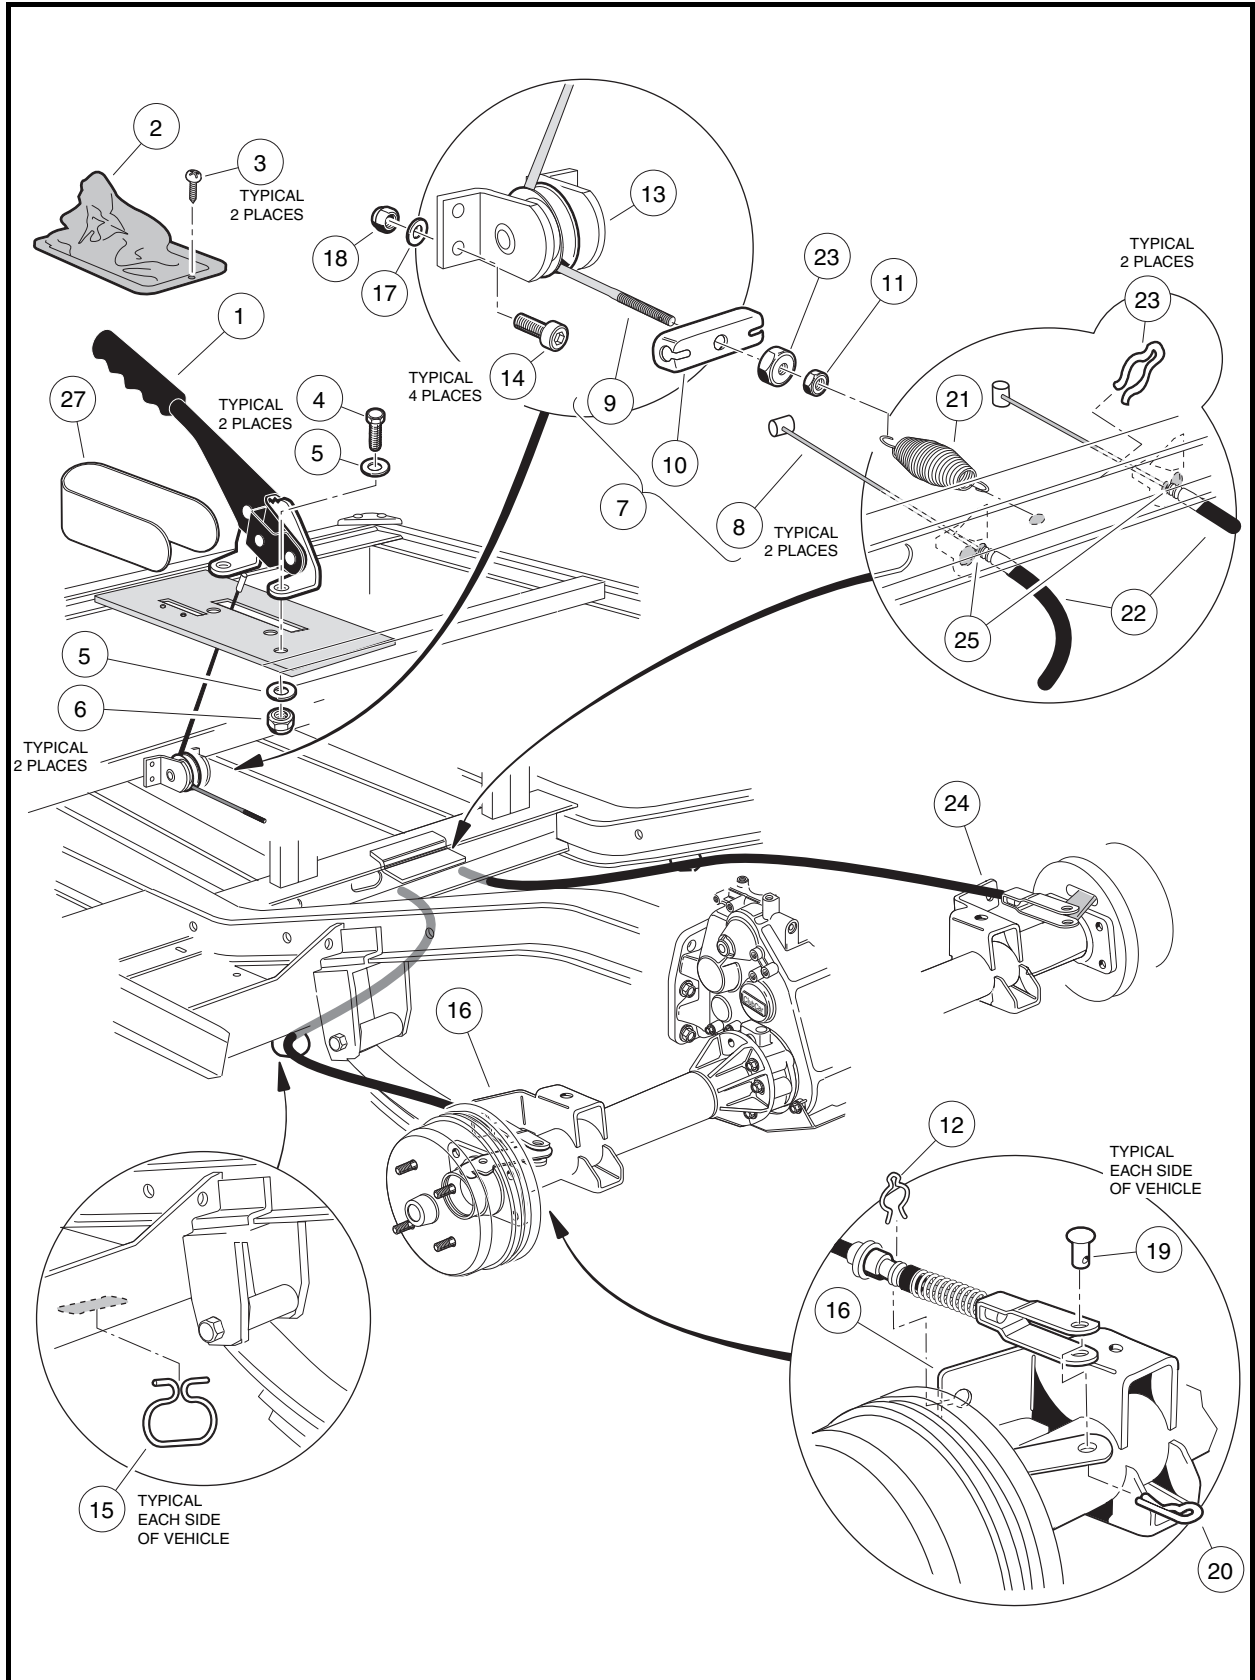

Figure 6-27 Park Brake System
2. Remove the two screws (3) that secure the park brake boot (2) to the seat support (**Figure 6-27, Page 6-37**).
3. Slide the boot (2) off of the park brake handle (1).
4. Remove the boot shield (27) from the park brake handle.
5. Remove the equalizer spring (21) from the equalizer cable (9).
6. Remove the equalizer jam nut (11) and conical nut (23) from the cable end (9).
7. Remove the end of the park brake cable from handle (1) by pushing the equalizer cable in an upward direction and pulling the cable end toward the passenger side of the vehicle.
2. Remove the four #10-24 x 3/4-inch socket-head screws (14), locknuts (18) and washers (17) from frame and remove the assembly (**Figure 6-27, Page 6-37**).
1. Loosen the equalizer jam nut (11) and the conical nut (23) to provide slack in the wheel brake cables (**Figure 6-27, Page 6-37**).
3. Remove the cable clip (23) from a wheel brake cable (22) at the vehicle frame (25) (**Figure 6-27, Page 6-37**).
4. Remove a park brake cable clip (12), hair spring cotter pin (20) and clevis pin (19).
6. Slide the cable through the frame hanger (15) and remove the cable from the vehicle.
1. Align the equalizer cable pulley assembly (13) with the mounting holes in the frame (**Figure 6-27, Page 6-37**).
2. Install the four 10-24 x 3/4-inch socket-head screws (14), flat washers (17) and locknuts (18) and tighten to 54 in-lb (6.1 N·m).
1. Thread the equalizer cable (9) up between the pulley and frame, through the top seat support slot and hook the end of the cable into the handle (1) clevis slot from the passenger side (**Figure 6-27, Page 6-37**).
2. Assemble the equalizer bracket (10) onto the threaded end of the equalizer cable (9).
3. Attach the conical nut (23) and equalizer jam nut (11) to the threaded end of the equalizer cable.
4. Attach the equalizer spring (21) from the equalizer cable to the frame.
5. Slide the boot shield (27) around the park brake handle.
6. Slide the boot (2) over the handle and down around the boot shield and onto the seat support.
7. Attach the boot (2) using two 5/16-18 phillips head screws (3).
1. Slide a cable (22) through the frame hanger (15) (**Figure 6-27, Page 6-37**).
2. Attach the cable clevis and wheel brake lever using the clevis pin (19) and hair spring cotter pin (20).
3. Attach the cable (22) to the cable support bracket (16 or 24), using a wire clip (12).
4. Attach the opposite end of cable (22) through a frame bracket notch (25) and secure with a wire clip (23).
5. Pull the end of the brake cable (8) up and into a keyhole opening in the park brake equalizer bracket (10).
2. Remove the two bolts (4), four washers (5) and two locknuts (6) from the park brake handle (**Figure 6-27, Page 6-37**).
3. Remove the park brake handle (1) from the seat support.
1. Attach the handle (1) to the seat support using two 3/8-16 x 1-1/4-inch hex-head bolts (4), 3/8 flat washers (5) and 3/8-16 locknuts (6) (**Figure 6-27, Page 6-37**). Tighten the nuts to 23 ft-lb (31.4 N·m).
3. Loosen the equalizer jam nut (11) and the conical nut (23) to provide slack in the wheel brake cables (**Figure 6-27, Page 6-37**).
5. With the park brake released (down), tighten the conical nut (23) until significant resistance is observed in the equalizer cable in order to fully lock the brakes (**Figure 6-27, Page 6-37**).